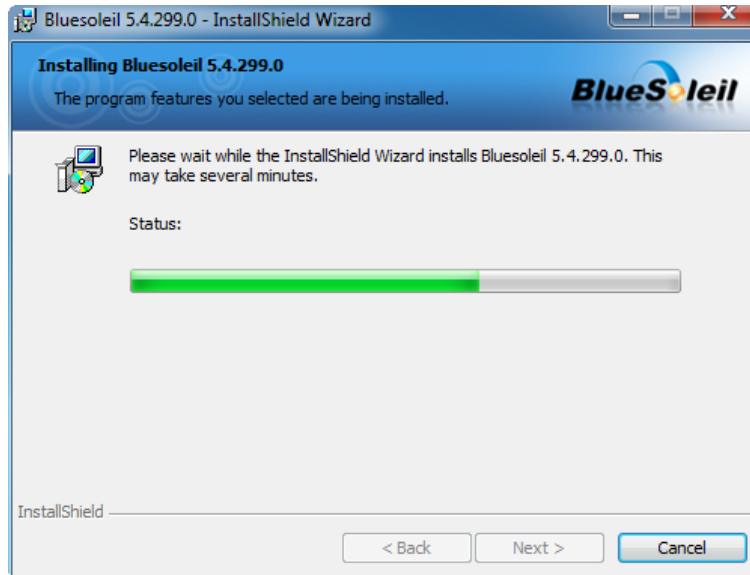

Figure 8-44: Installing BlueSoleil
Step 11: The installation screen appears and displays the progress of the installation (**Figure 8-44**).